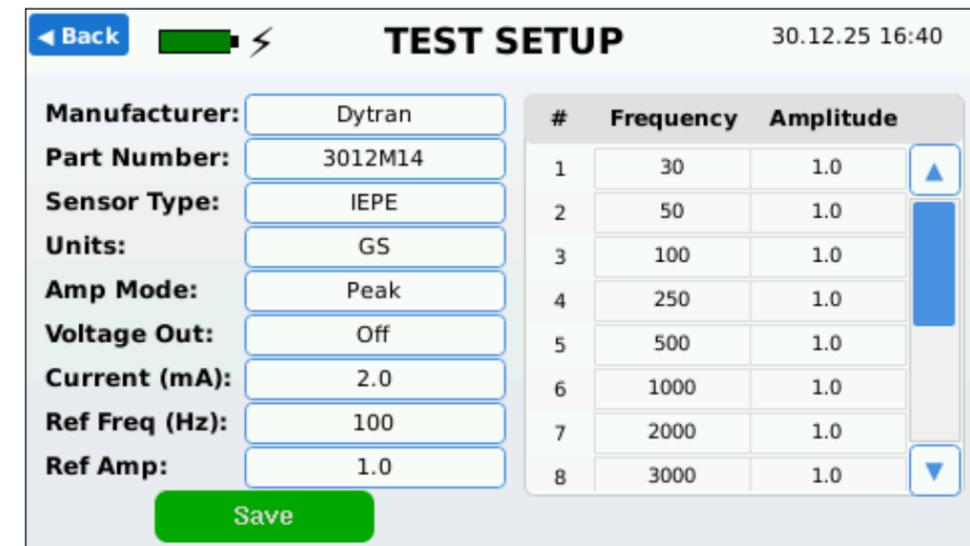

Figure 36
1. On the Settings screen, select **Test Setup** to open the Test Setup screen (*Figure 36*).